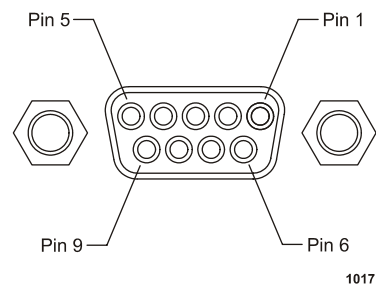

Figure 5-11. Sync Pulse connector
Up to six Pinnacle Plus+ power supplies may be configured to operate in a master/slave system, allowing you to increase your total system power up to 60 kW. Any Pinnacle Plus+ unit that features the master/slave Host card can function as either a master unit or a slave unit. (See Figure 5-11 on page 5-18 for an illustration of the master/slave Host card.)
The master/slave card is located near the top left side of the unit's rear panel (when facing the rear panel). The master/slave Host card includes three ports: a 9-pin, female, subminiature-D serial communications port for external serial control, and two modular ports (P1 and P2) for connecting master and slave units with the master/slave cable (see Figure 5-11 on page 5-18).
3. Set the MSTR/SLV switch (see Figure 5-11) in the "up" (MSTR) position.
3. Set the MSTR/SLV switch (see Figure 5-11) in the "down" (SLV) position.